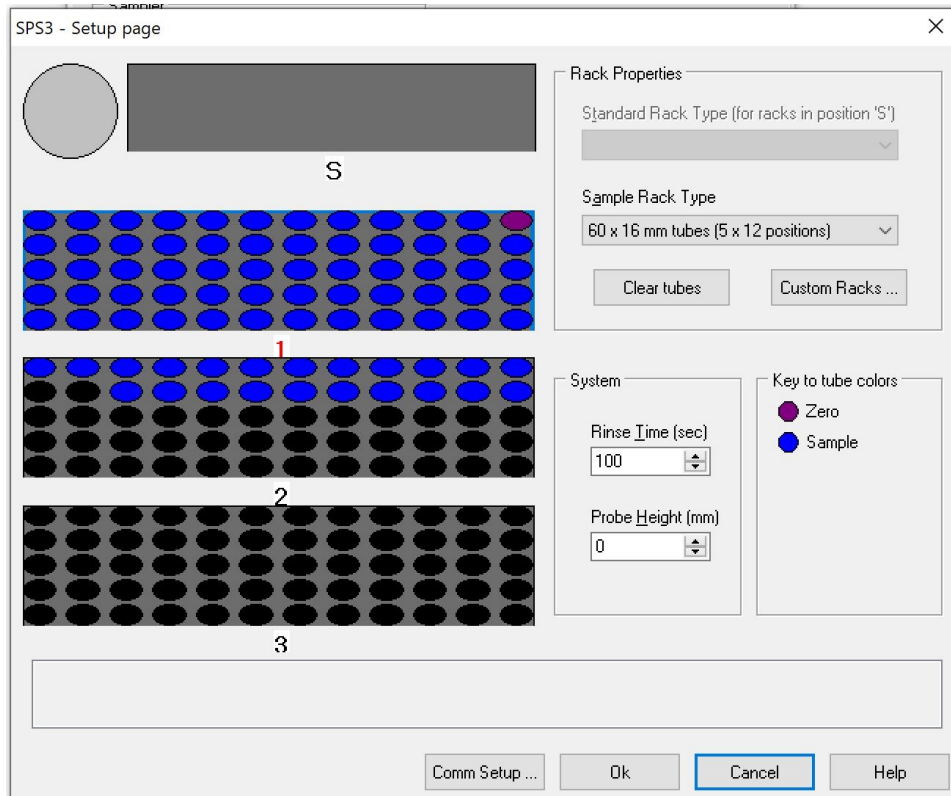

Figure 14 : How to load the vials in the sample racks
- Observe where the samples need to go (Figure 14). Click **OK**.